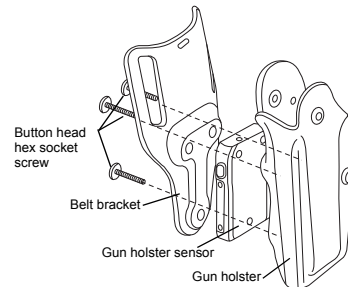

Figure 3: Installing the sensor within the gun holster and belt bracket.
1. Arrange the components as in Figure 3 with the sensor within the holster and belt bracket by facing the M-logo toward the belt bracket.